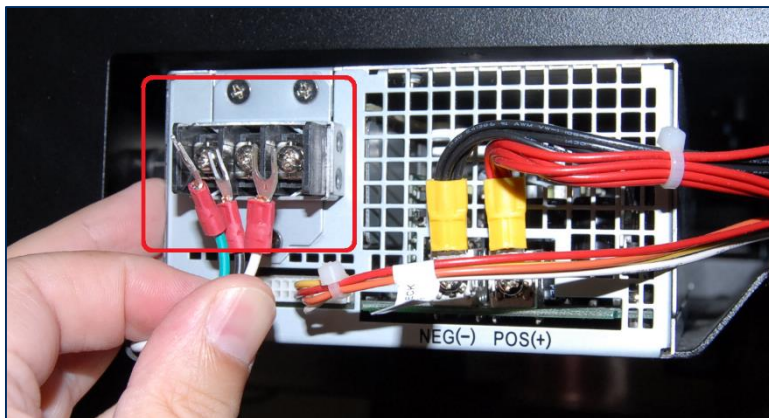

Figure 3-5 - Power Supply Input Wires (LEFT VIEW)
- 6) Re-connect the input wires. Insert the spade connectors **behind the plate behind the screws** (not directly behind the screws). See **Figure 3-5**. The connections are as follows: